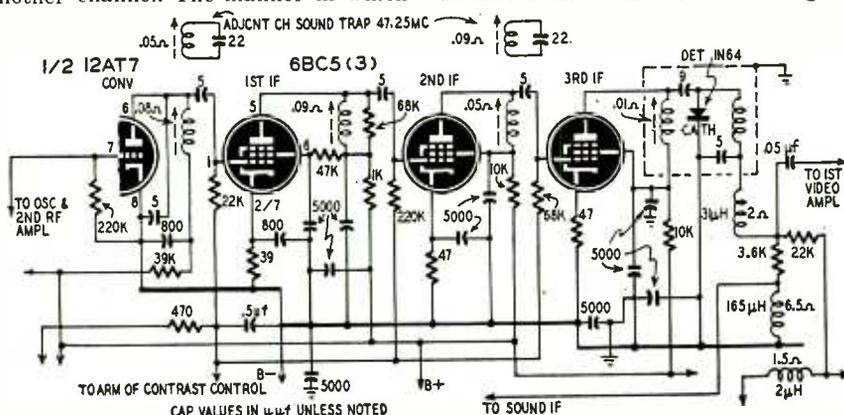

Fig. 1—Diagram of General Electric's 44-mc i.f. strip used in the 16T3, 16C113, and similar models. Two 47.25-mc traps suppress the adjacent-channel sound.
3. *Alignment:* Procedure is similar to that used at 24 mc, but the importance of short leads, even from the signal generator, becomes a dominant factor. Short leads are absolutely necessary; lead dress is critical. Bypassing to the right spot is a problem. Regeneration can be serious with some tube types (though none seems to be evident with the 12AT7 converter in the G-E' adaptation). Stability and symmetry for all values of a.g.c. or contrast bias create vexing problems that require much care to solve satisfactorily. G-E solved these problems in a transformerless cold chassis type model (see Fig. 1) and RCA has developed a fine 44-mc i.f.